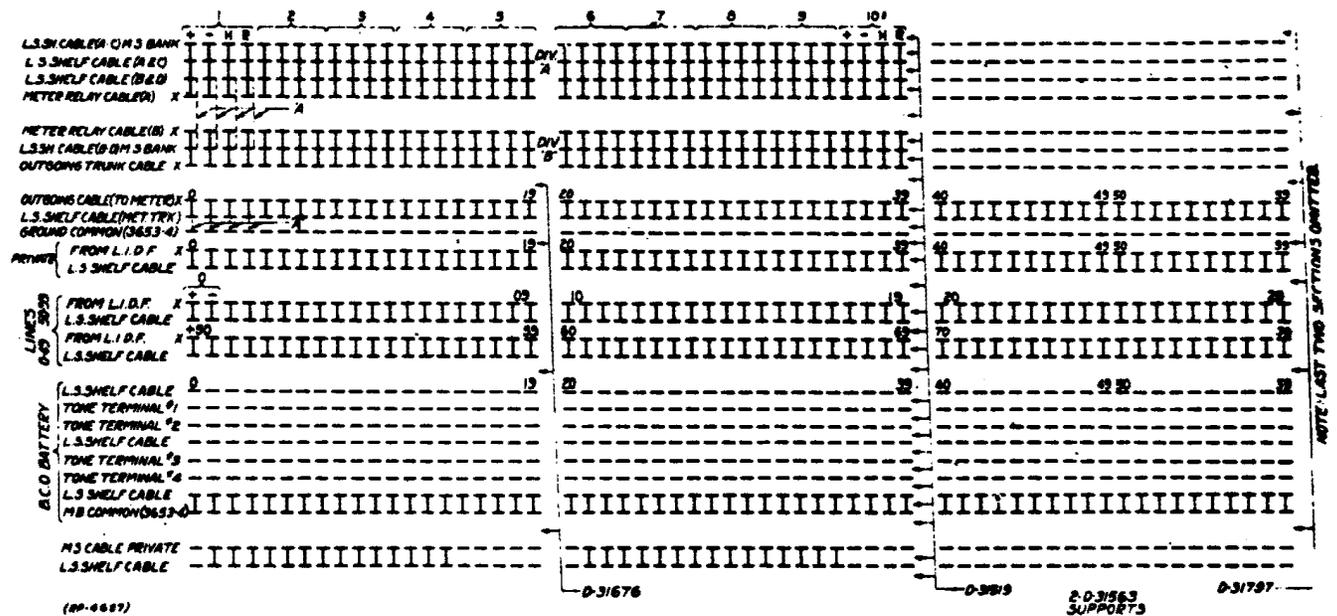

FIG. 3 TYPICAL LINE SWITCH TERMINAL ASSEMBLY DRAWING
3.2 This assembly is 100 terminals wide and on the assembly drawings each terminal is shown. Figure 3 shows only sixty of these one hundred terminals, but the last
3.5 The vertical lines between sections (Figure 3) with their horizontal arrows refer to the position of the insulators, the piece part number of which is given at the bottom of the line.